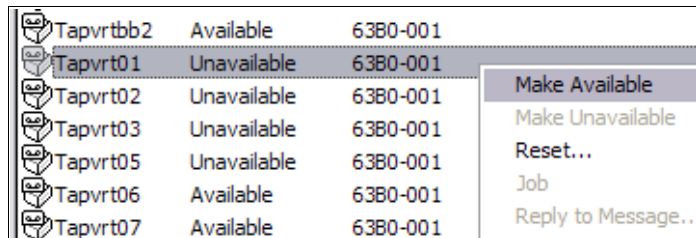
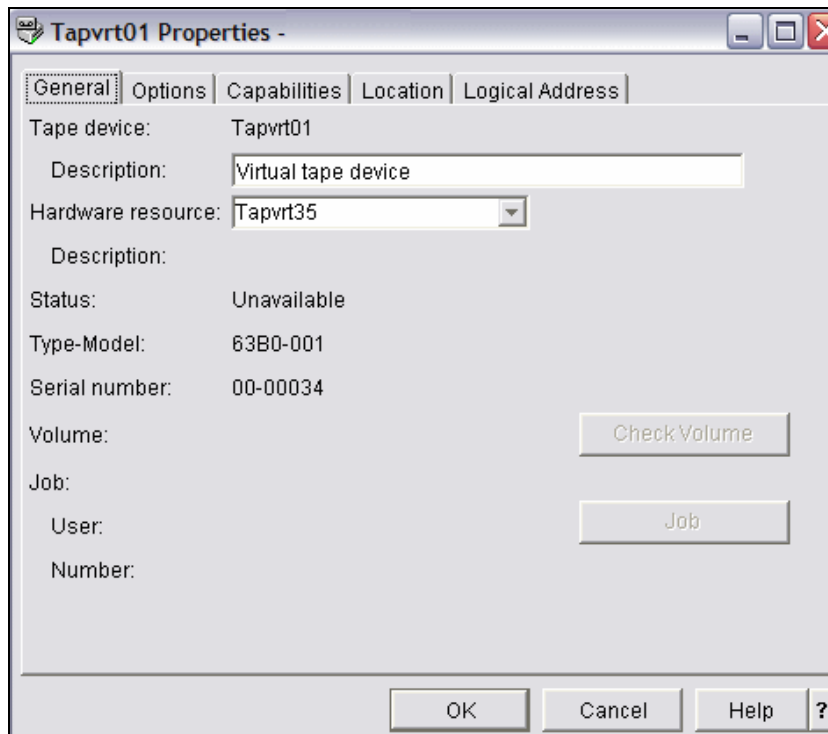

Figure 8-10 Make tape drive available
Figure 8-13 Tape drive properties
- Right-click tape device Tapvrt01 and select **Make Available**, as shown in Figure 8-10.
Go back to the window shown in Figure 8-10 on page 437, right-click the device, and select **Properties**. A window similar to the one shown in Figure 8-13 is displayed.
Figure 8-13 shows that the status for resource TAPVRT35 is Unavailable. This indicates it is being used by another device (Mervvrt, as shown in Figure 8-14), thus making it unavailable. Click **OK**.